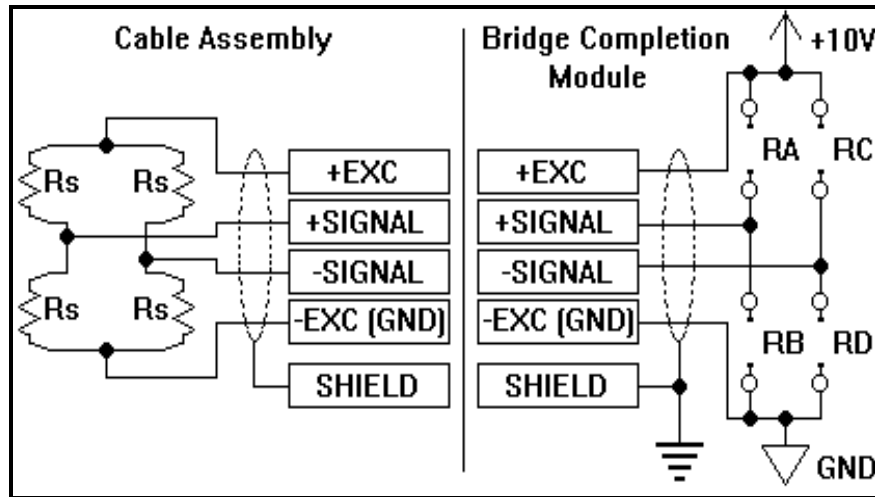

Figure 12. Full bridge configuration.
Full bridge strain gauges refer to a configuration in which all four (4) resistive elements are mounted onto the test specimen. In this case, no discrete resistors are needed since the bridge circuit is already complete. Please refer to figure 12 for further details.